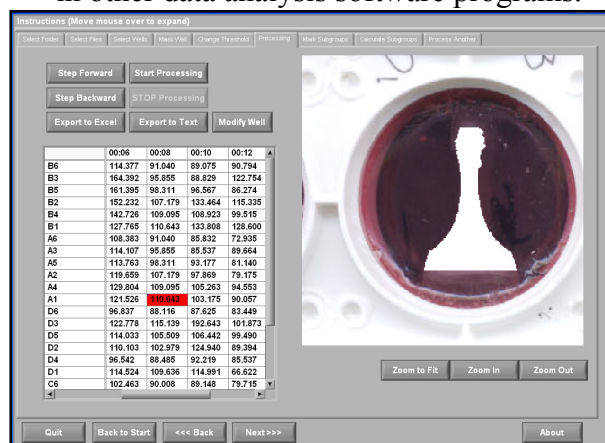

Figure 27. Processing the image series.
1. The user may double-click on the well name in the left column of the window to view the image of the chosen well with the previously selected threshold pixilated. Select *START PROCESSING* to begin processing the image series (Fig. 27). At any point during the processing, the user may stop the analysis by selecting *STOP PROCESSING*. The upper cell in the 00:00 column will highlight red when processing is complete. After processing is complete (Fig. 27), the user has several options for post-processing (see Section 7).
Individual images in the processed results may require more consideration if the pixilation does not possess the desired effect. For instance, there may be pixels pixilated white that are outside of the object being analyzed, but inside of the ROI. In this case, highlight the cell respective to the well image and select *MODIFY WELL* (Fig. 27).